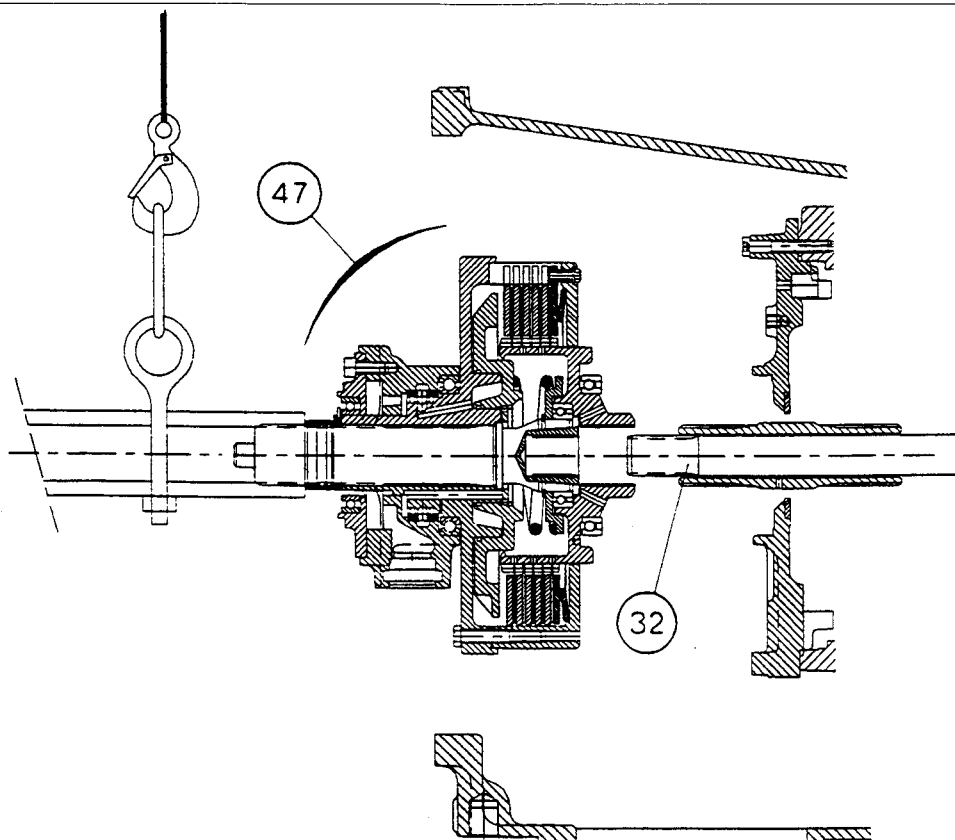

Fig. 2
16. Remove the clutch assembly **(47)** using a locally manufactured tool (Fig. 2).